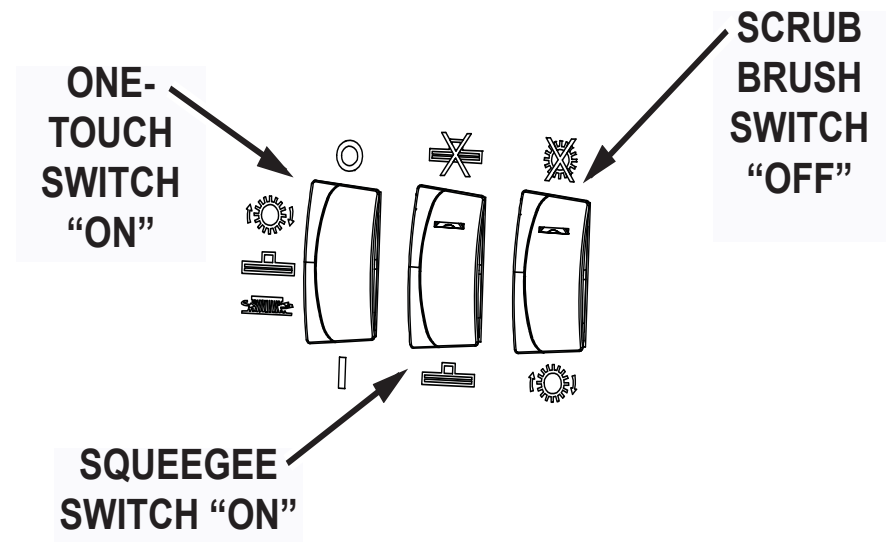

Fig. 1: Control Settings for Water Pick-up Mode
2. To begin operating with only the squeegee and vacuum system, insure that the squeegee switch is in the “on” position and set the scrub brush switch(s) to the “off” position (an illuminated red light on each switch indicates that that function is turned off). (See Fig. 1).